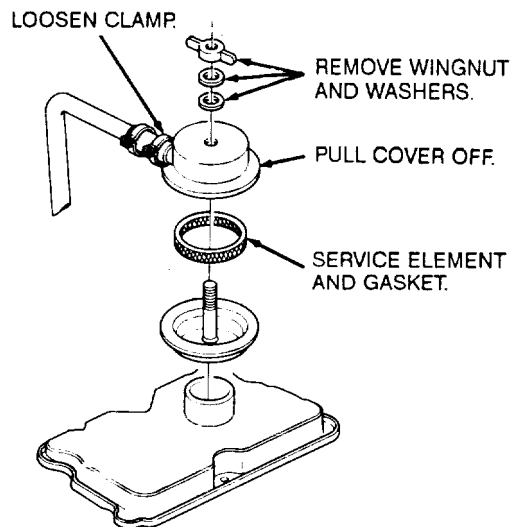

Figure 39. Crankcase breather service.
e. *Crankcase Breather.* Service the crankcase breather (fig. 39).
- (1) The crankcase oil level must be checked frequently as oil consumption may increase.
- (2) The oil may require changing more frequently than usual because contamination by dilution and sludge formation will increase under cold weather operating conditions.